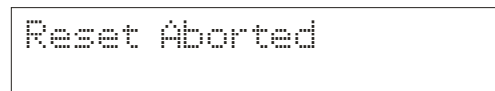

Figure 128
- If you select **No**, the screen flashes *Reset Aborted* and then returns to the setup mode. See **Figure 128**. This is the last mV setup program. Press  $\nabla/MR$  to go to the previous program. Press  $\Delta/MI$  to go back to the first mV setup program. Press **EXIT** to return to mV measurement mode.